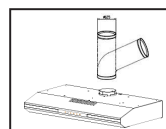
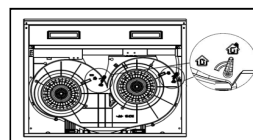

Fig. 6
Fig. 7
Connection to Exhaust Air Pipe (Fig. 6)
Operating mode setting (Fig. 6 & Fig. 7 & Fig. 7. 1)
- ▶ For ducted mode, slide the lever to position as shown (Fig. 7).
- ▶ Top vented : fit outlet connector and use Ø120mm pipe (Fig. 6). Note: Application pipe is not provided.
- ▶ For **recirculation mode**, install outlet cover, slide the lever to position as shown (Fig. 7. 1). Note: grease filter and charcoal filter are used.